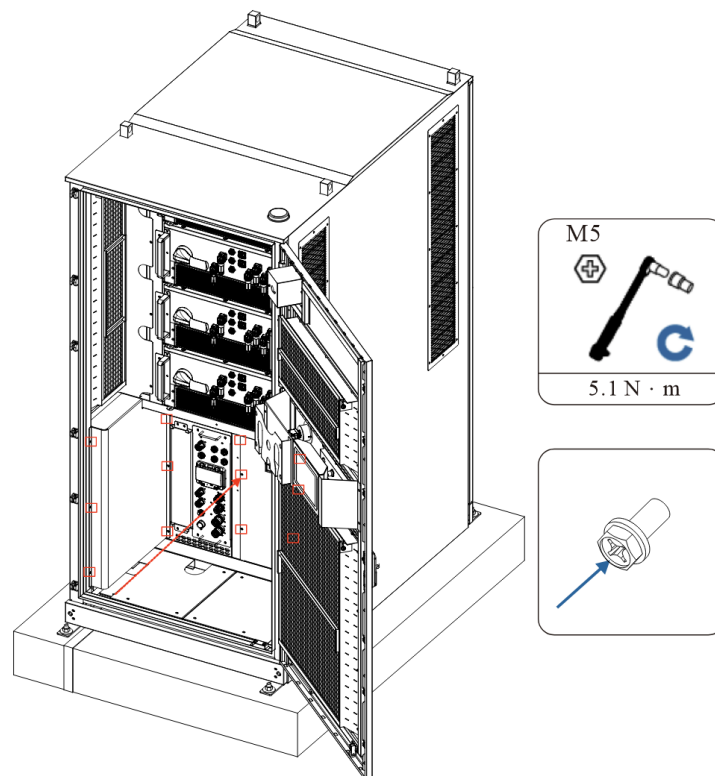

Figure 4-17 Reinstall the AC/DC protective plates
■ **Figure 4-17** Install the coil pressure plates